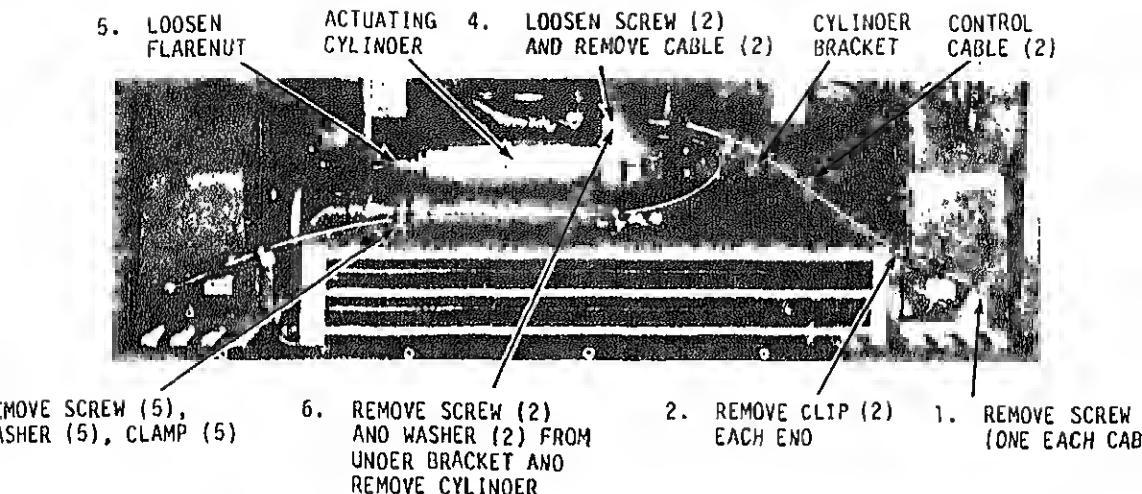

Figure 5-5. Condenser louver control, removal and installation
(3) Refer to figure 5-5 and loosen mechanical post screws at each end and loosen control wire.
(4) Remove screw, lockwasher and loop clamp.
(5) Remove push-pull control assembly clips at each end and remove push-pull control.
(6) Disconnect flare nut from actuator cylinder.
(7) Remove two nuts and lockwashers from bracket and remove actuator cylinder. If cylinder is to be replaced, move rivets and retain push-pull control assembly brackets.
(2) Install actuator cylinder (figure 5-5) with studs through openings in bracket. Install lockwashers and nuts on studs.